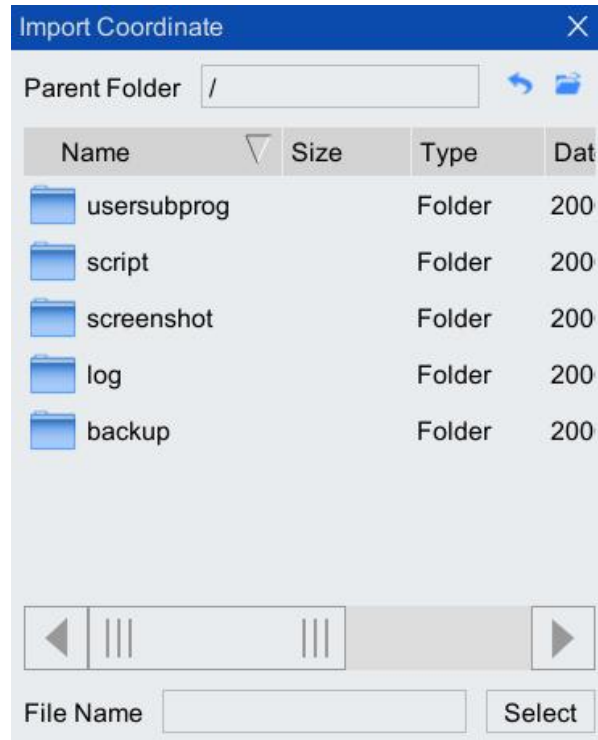

Figure 7-9 "Import coordinate system" list box
- Step1. In the main interface of the teach pendant, click "File > Restore Backup > Coordinate System File" option, and the "Import Coordinate" list box as shown in Figure 7-9 will pop up.